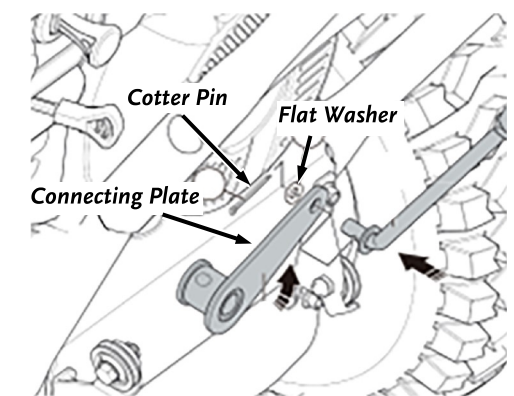

Figure 19
2. Pull the Shift Connecting Plate upwards and install short bent end of the Drive Speed Control Rod. Attach the Drive Speed Control Rod with the flat washer and cotter pin (**Figure 19**).